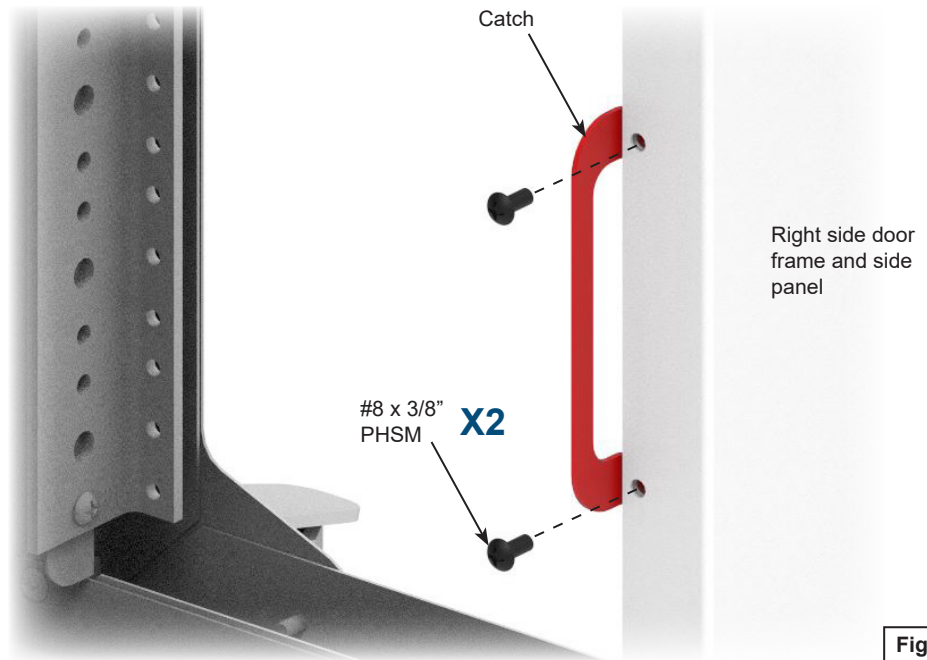

Figure 8
1. Attach catch to the right side of the unit with (2) #8 x 3/8" PHSM screws. **Figure 8.**